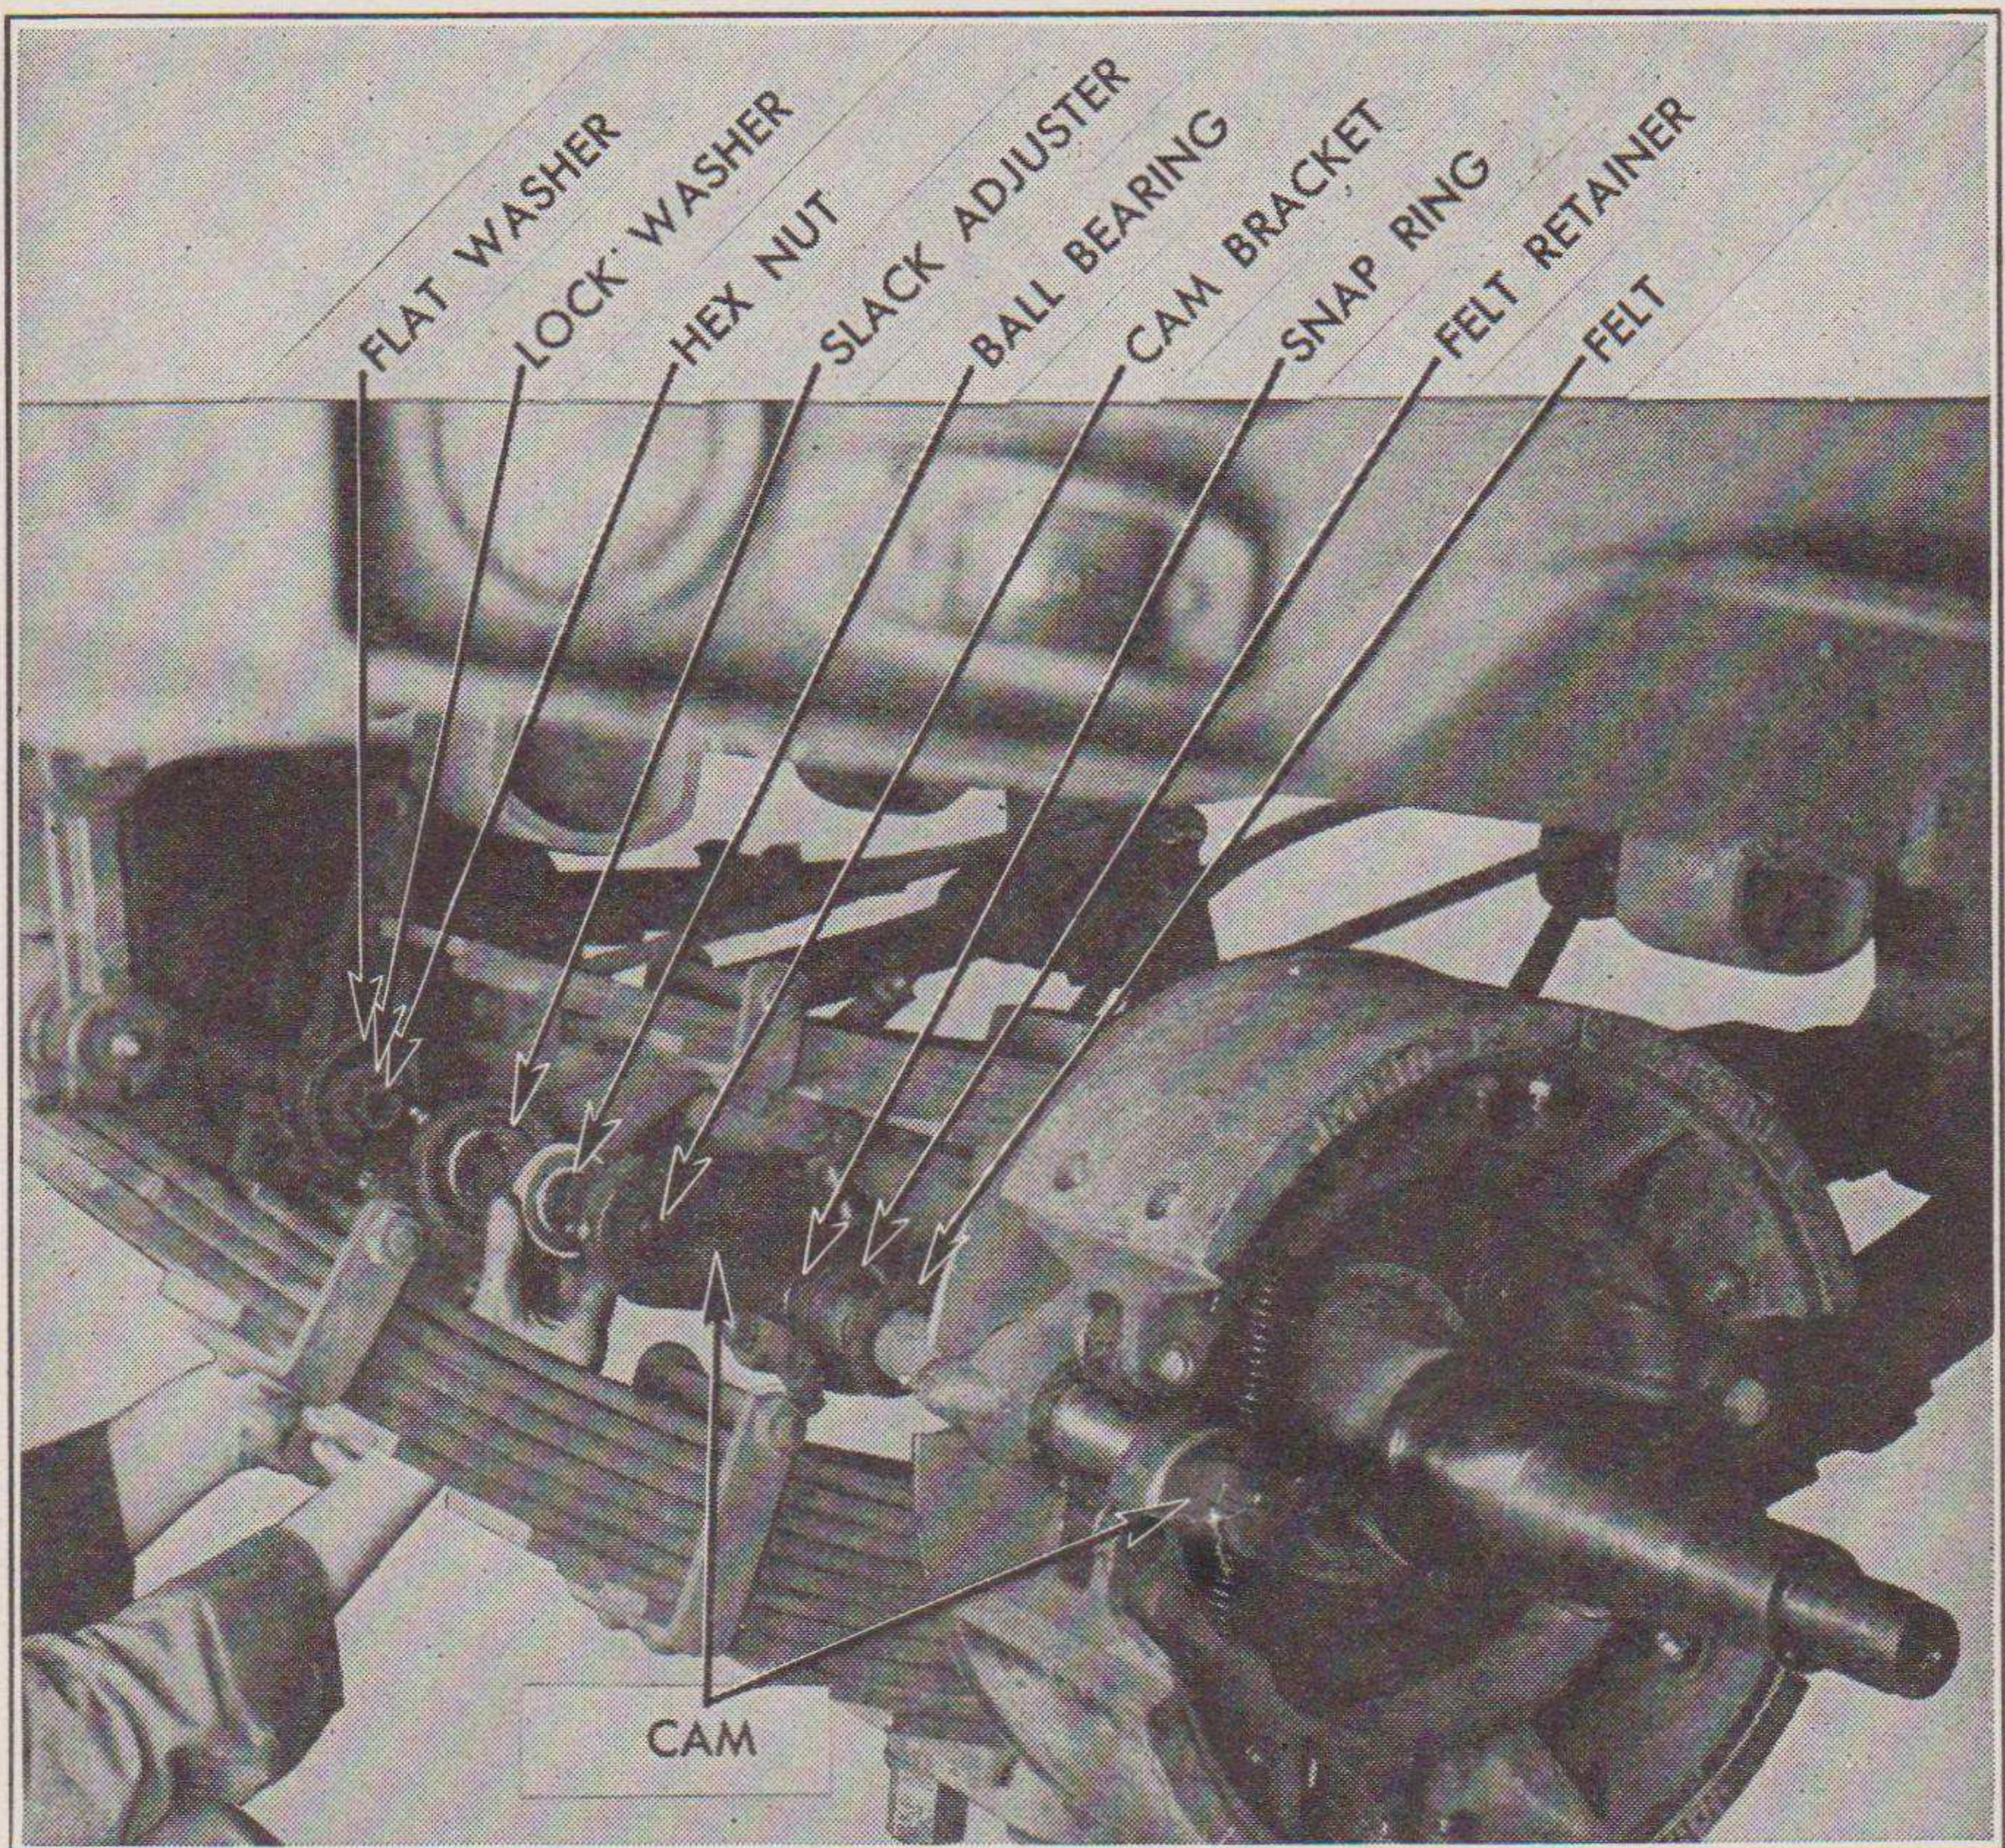

FIGURE 17. REPLACING CAM SHAFT
(1) Drive out the old bushing.
(2) Press or drive in new. Drive new bushings in with care as a mushroomed or burred bushing will retard free movement of brake shoes, both in application and release. These bushings come reamed to proper dimensions.
8. CAMS (Refer to Figure 17).—a. *Replacing Cam.*—Cams come in rights and lefts. When replacing them, care should be taken to place the proper cam on the proper side. Cams are stamped on inner end with a number, even number is right, odd number is left.